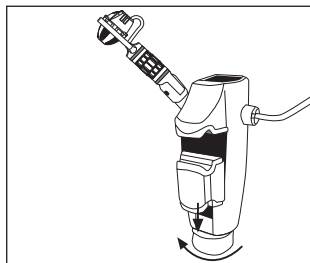

Figure 1
1. Loosen the bottom thumbscrew clockwise until the rim notches fit over the drum rim. (Figure 1)